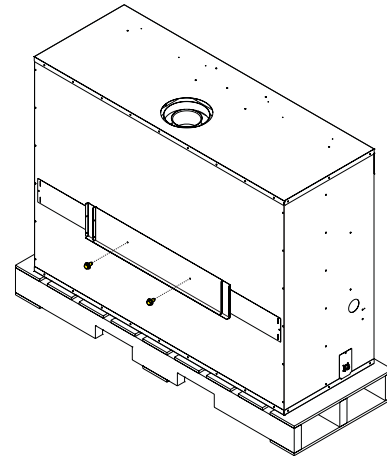

Figure 9
1. Remove the two #10 x 1/2" screws, two support braces and two standoffs from firebox rear as shown in Figure 9. Do not discard any of the hardware.